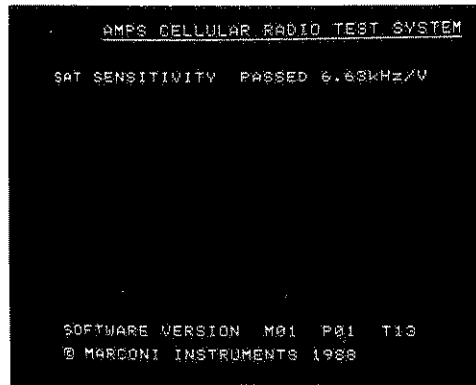

Fig. 3-7 Display following CRTS mode selection
- (2) Press the CRTS key. The display changes to AMPS CELLULAR RADIO TEST SYSTEM as shown in in Fig. 3-7. The 2957A performs a series of self tests which include self calibration. For each self test, a line appears on the display and, if passed, is replaced by the next one. When a failure occurs, the CONTINUE key appears together with an appropriate message.
- (3) To retain the display line for a test and subsequent tests, press the TX TEST key during that test. This effect is cancelled when the TX TEST key is pressed again.